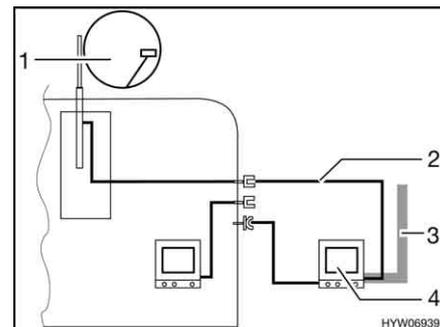

Fig. 178 TV in the awning
- TV inside the awning (Fig. 178,4): Connection to roof antenna (Fig. 178,1) with connection cable (Fig. 178,2)
- TV inside the awning (Fig. 178,4): Connection to external antenna (Fig. 178,3)